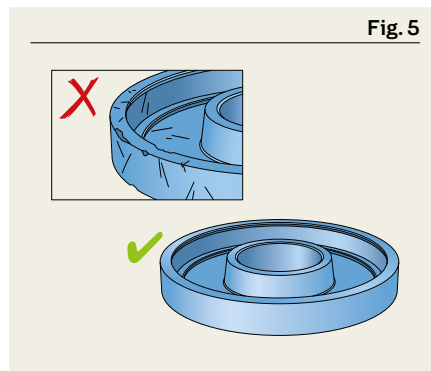

Fig. 5
- 1 Check the housing for any damage or imperfections (**Fig. 5**).